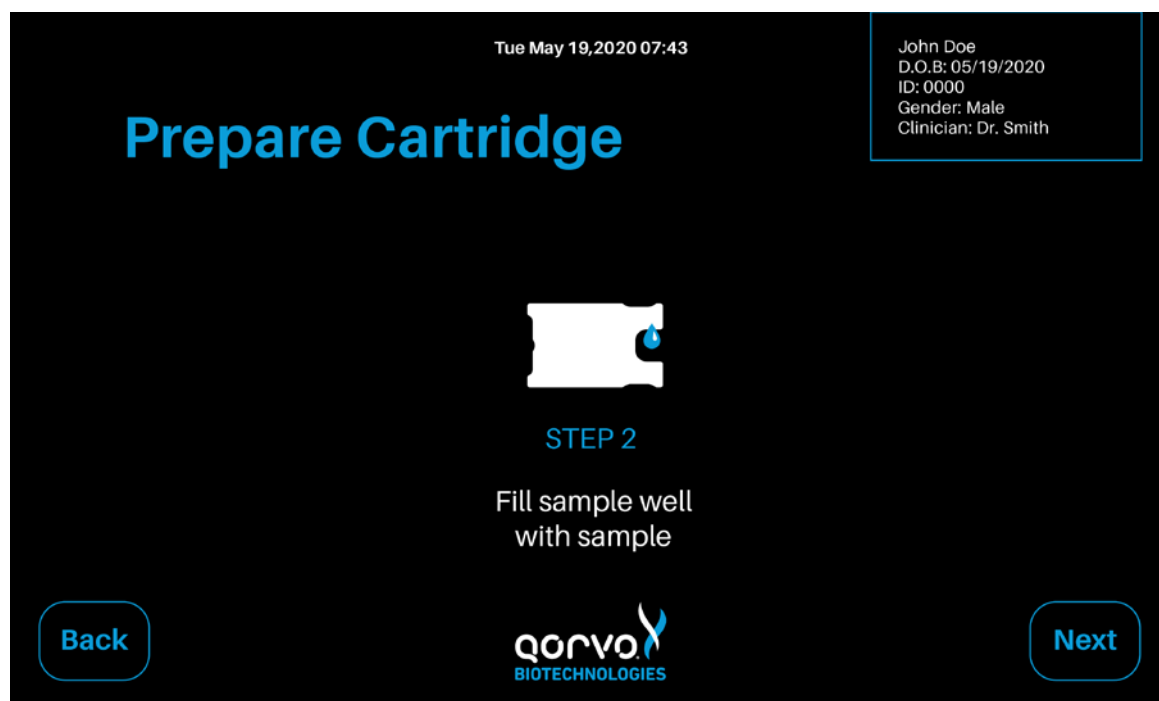

Figure 24
5. Press “Next” when ready to proceed. The screen in Figure 24 will appear.